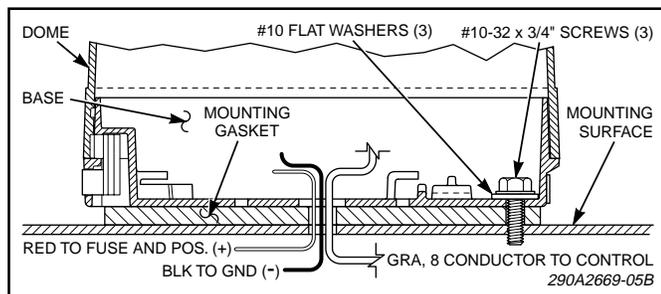

Figure 3.
9. See figure 3. Secure the base to the mounting surface with the three #10 thread-forming screws and flat washers.
13. Connect the light's red wire to one side of a user-supplied fuseholder. Connect the other side of the fuseholder to the positive (+) terminal of the vehicle's battery. Install a six (6) ampere fuse in the fuseholder.